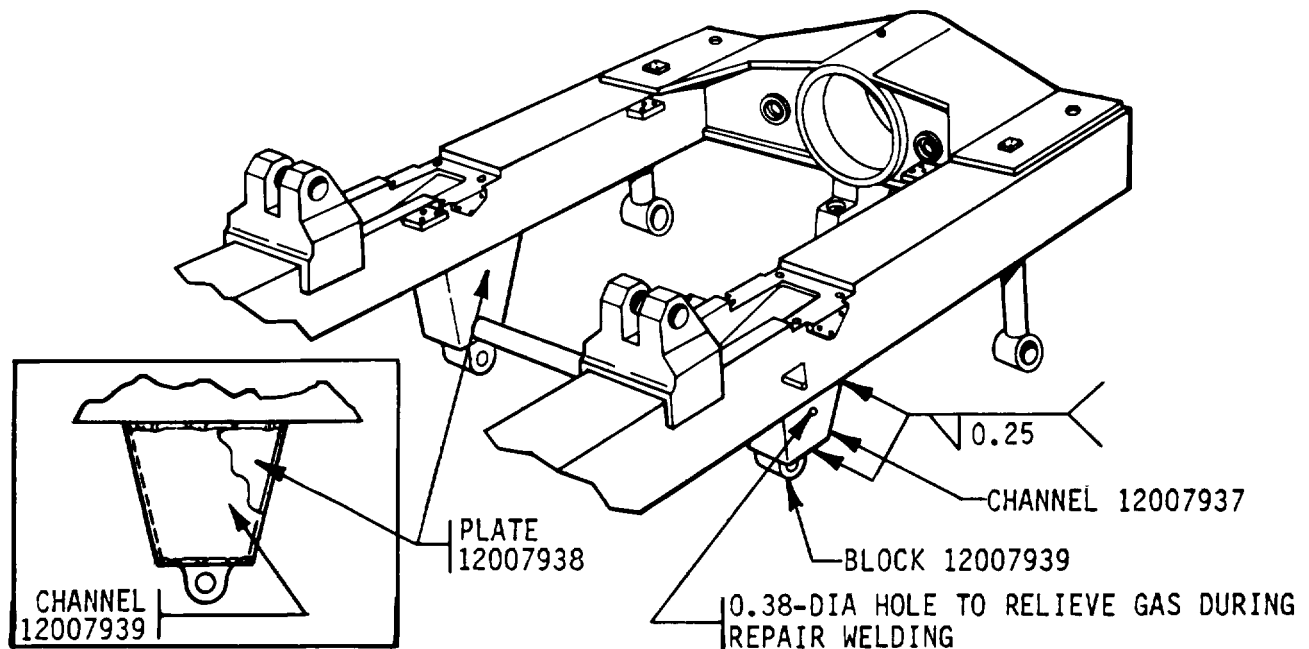

Figure 1. General areas for repair welding.
Refer to figures 1 thru 4 for repair weld requirements.
a. Repair to cracks occurring in welds joining block (12007939) to channel (12007937) and channel (12007937) to plate (12007938) will be made in accordance with figures 1 thru 4.